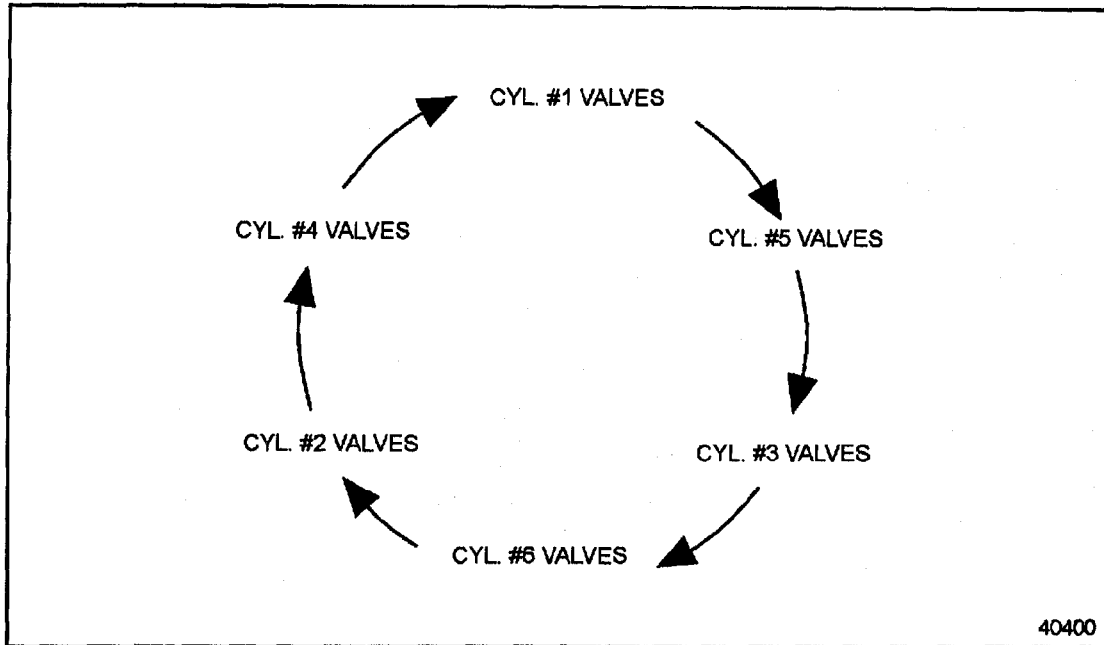

Figure 12-12 Timing Circle Chart for the Series 60G Engine
Bar the engine over clockwise until one of the cylinders has the intake and exhaust cam follower rollers on the base circle of the camshaft. Adjust all four valves at this position. Continue barring the engine over until the next cylinder is in position. Follow the timing valve circle chart until all of the valves have been adjusted. See Figure 12-12.
5. See Figure 12-12 and locate the cylinder. The timing circle can be started with any cylinder. Ensure the circle is completed to set all valves.
11. See Figure 12-12 and note the cylinder number, in parentheses, directly under the cylinder that just received the valve adjustment.